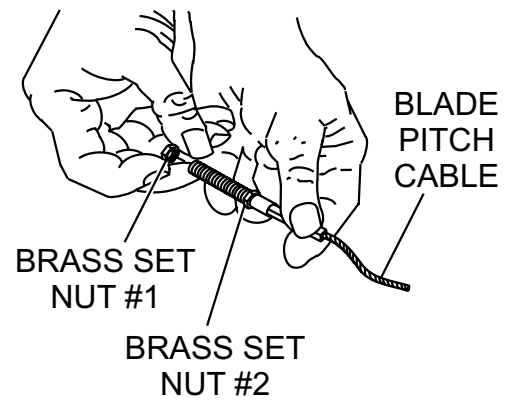

Figure 7. Blade Pitch Cable
3. Remove brass set nut #1 from the blade pitch cable end. See Figure 7.
4. Thread the brass set nut #2 towards the cable as far as possible. See Figure 7.